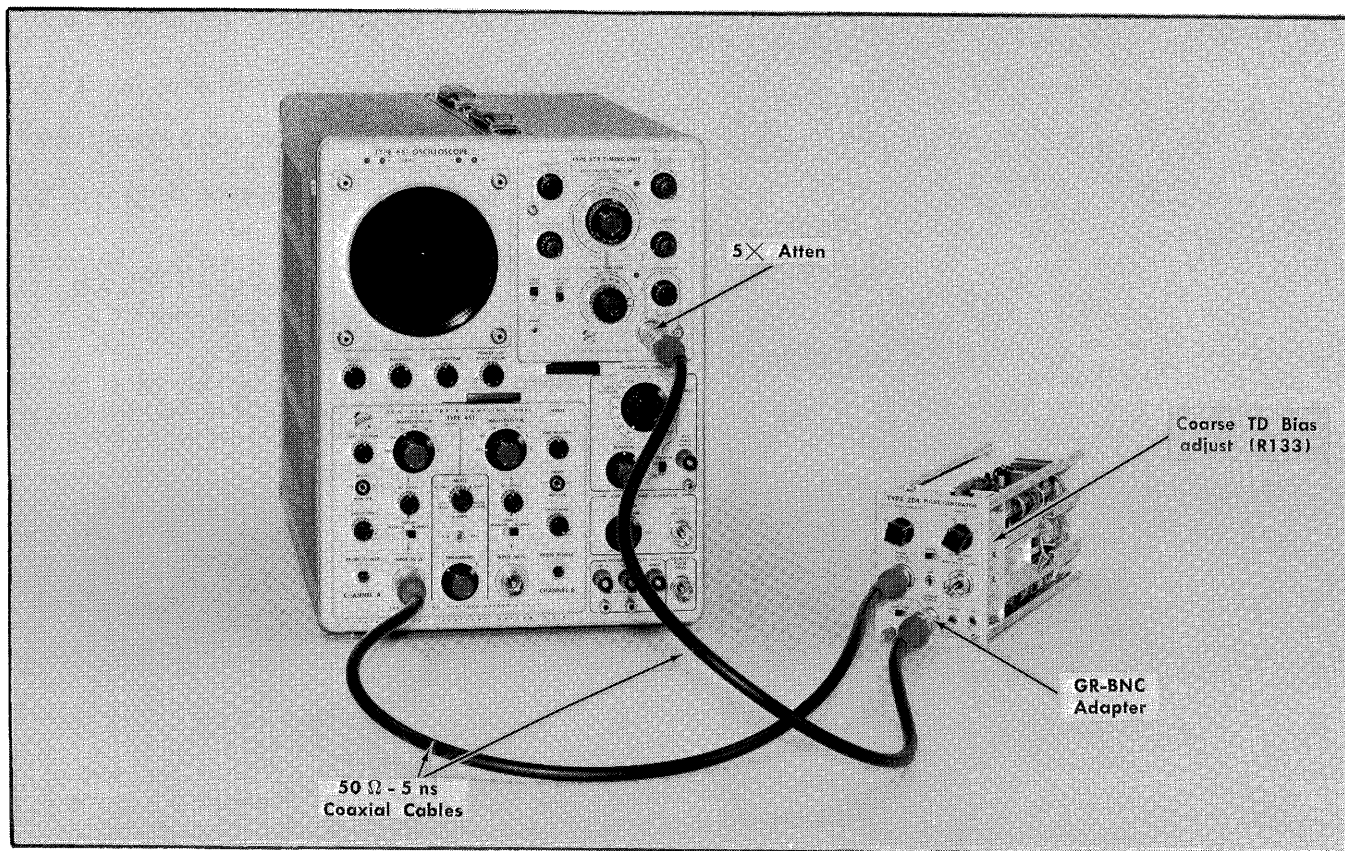

Fig. 6-25. Equipment setup for steps 15 through 24.
a. Use equipment setup in Fig. 6-25. Connect the PULSE OUTPUT signal from the Type 284 through a 5 ns coaxial cable to the Channel A Input 50 Ω connector on the Type 451. Connect the TRIGGER OUTPUT signal from the Type 284 through a BNC to GR adapter, a 50 Ω coaxial cable, and a 5× attenuator to the Ext Input 50 Ω connector of the Type 5T3.
- a. Use the equipment shown in Fig. 6-25, but connect as follows: Use two identical 50 Ω coaxial cables, one to connect the TRIGGER OUTPUT signal through a BNC to GR
a. Use the equipment shown in Fig. 6-25, but connect as follows: Use two identical 50 Ω coaxial cables, one to connect the TRIGGER OUTPUT signal through a BNC to GR adapter to Channel A Input 50 Ω connector; and one to connect the PULSE OUTPUT signal to Channel B Input 50 Ω connector.